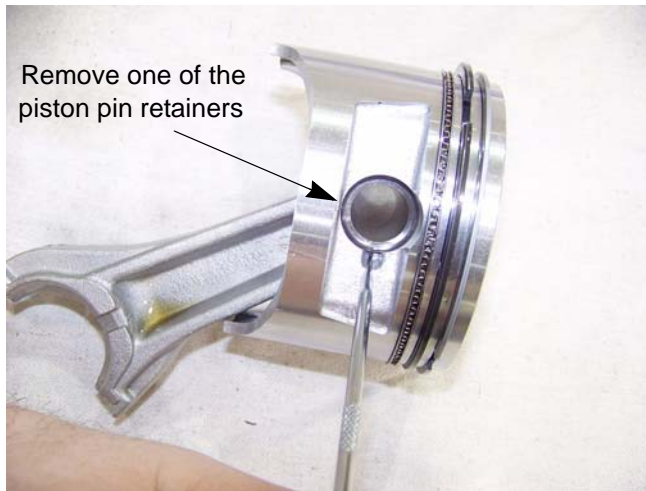

Figure 10.6
18. Remove one of the piston pin retaining rings. See Figure 10.6.